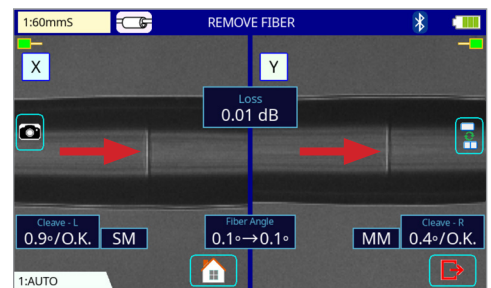

Figure 9
- A Bubble can sometimes arise when splicing dissimilar fibers, or highly multimode fibers. This is the result of a line appearing at the splice point (see **red arrows** in **Figure 9**). This line does not affect splice loss, and the Bubble error can be handled by adjusting the “Bubble Sensitivity” setting in the splice mode.